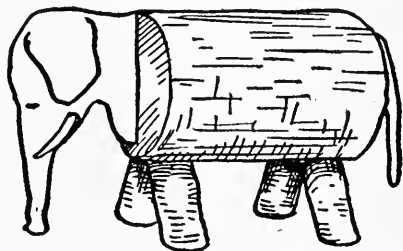

FIG. 399. — The Elephant.
**The Elephant**, and cut the head, trunk, ears, and tusks out of a piece of cardboard as shown in the illustration (Fig. 399). Cut the tail out of another piece of cardboard, and glue it in a slit made in